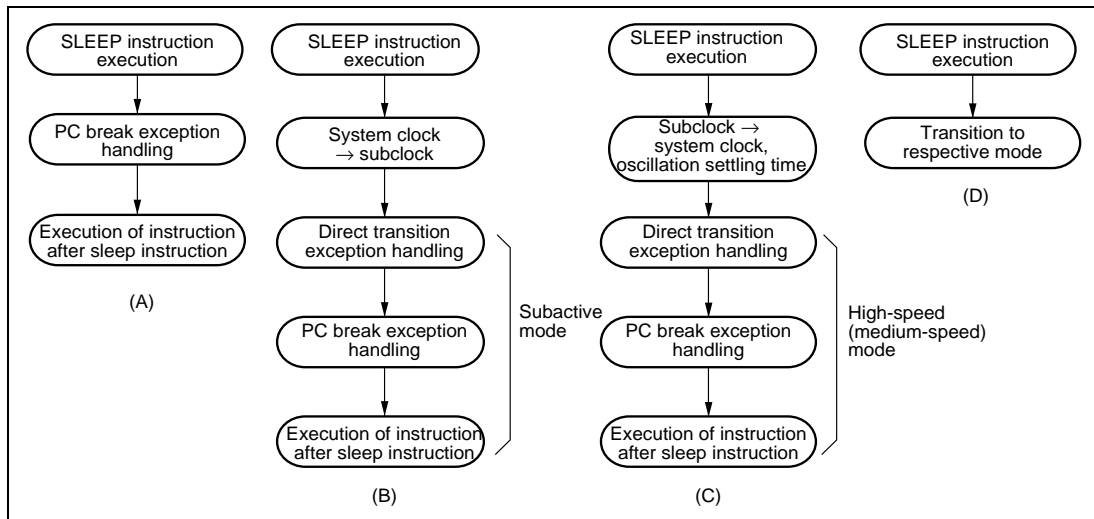

Figure 6.2 Operation in Power-Down Mode Transitions
After execution of the SLEEP instruction, a transition is not made to sleep mode, and PC break interrupt handling is executed. After execution of PC break interrupt handling, the instruction at the address after the SLEEP instruction is executed (figure 6.2 (A)).
- When the SLEEP instruction causes a transition from high speed (medium speed) mode to subactive mode (figure 6.2 (B)).
- When the SLEEP instruction causes a transition from subactive mode to high speed (medium speed) mode (figure 6.2 (C)).
After execution of the SLEEP instruction, a transition is made to the respective mode, and PC break interrupt handling is not executed. However, the CMFA or CMFB flag is set (figure 6.2 (D)).